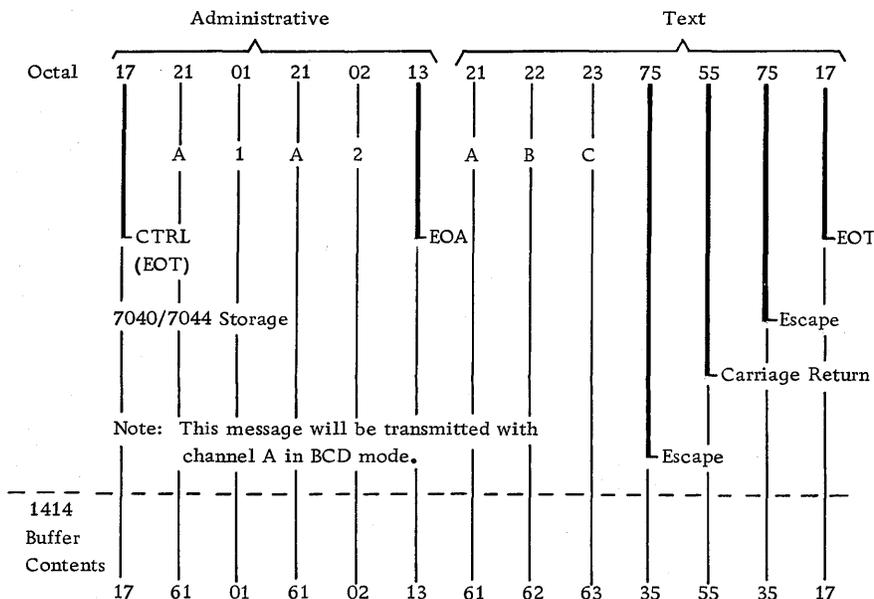

Figure 2. Message Format Example--Communications Line Adapter
1. An initiate administrative control character (EOT): $\sqrt{(C8421)} \textcircled{C}$. This puts the adapter in the control mode, indicating that all characters following will be address control characters. This is the beginning of the administrative (line control) portion of the message. (See Figure 2 for example format.)
This procedure is followed until all devices on a 1051 control unit are selected. Do not attempt to change the 1051 address in a given message; repeat the 1051 address (A) and follow it by the next device address (see Figure 2).
5. An end-of-address (EOA) code # (821) (D) ends administration control. After all addresses have been put in message, the last control character should be EOA. The adapter is then switched to "text" mode.